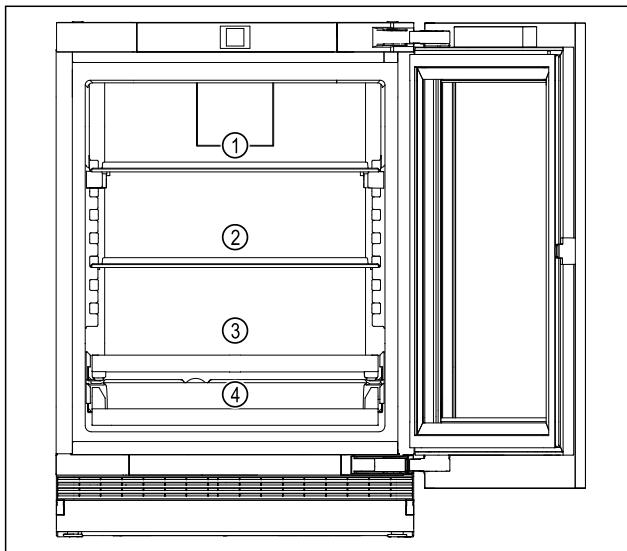

Fig. 5 Example illustration
- ▶ Upper area Fig. 5 (1): Store cans, smaller bottles.
- ▶ Middle area Fig. 5 (2): Store cans, smaller bottles.
- ▶ Lower area Fig. 5 (3): Store cans, smaller bottles.
- ▶ Drinks shelf (4): Store cans, smaller bottles.